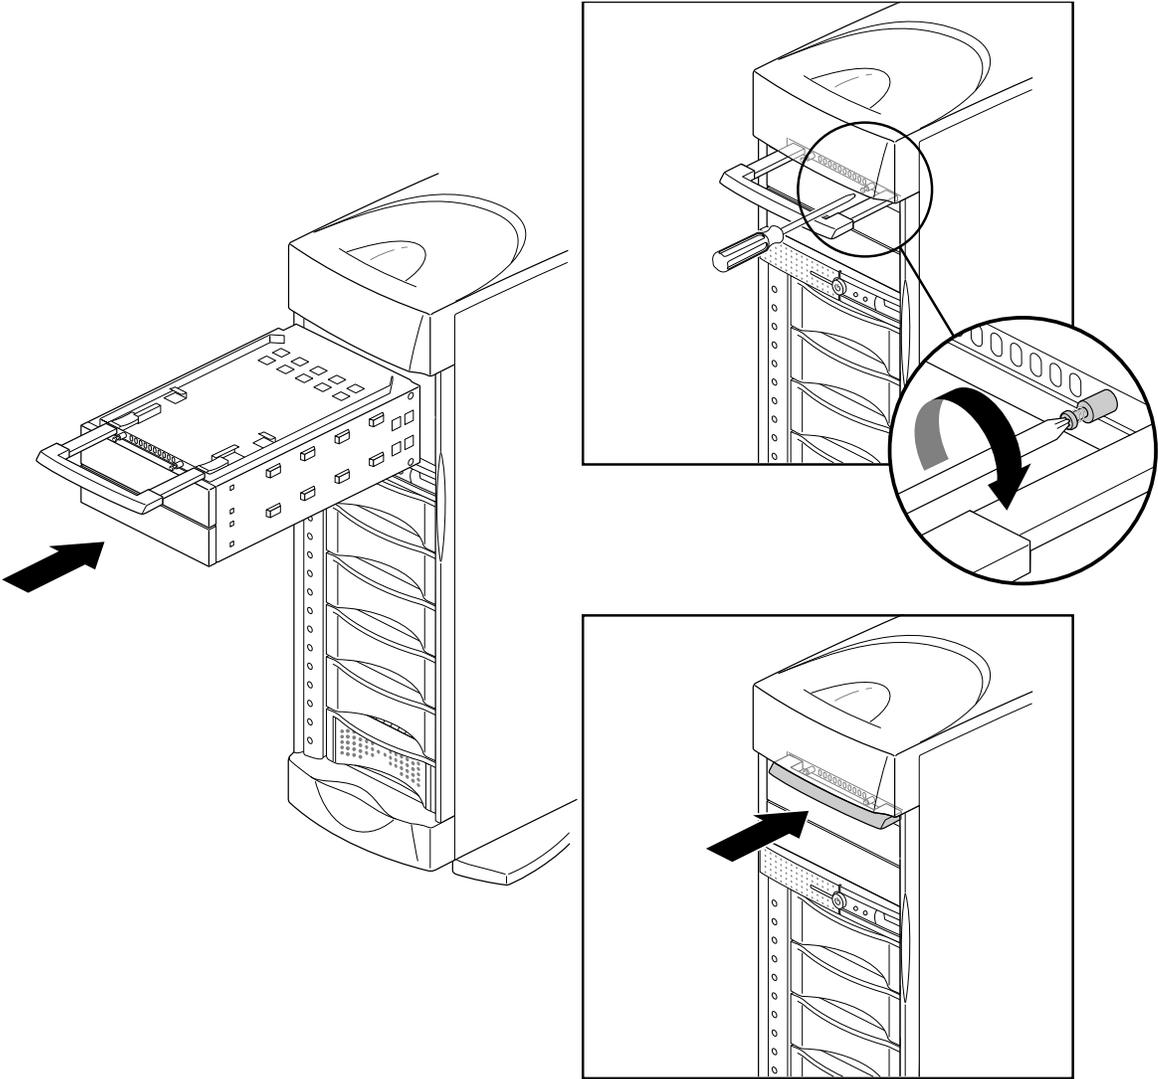

Figure 6-5 Replacing the 5.25-Inch Peripheral Carrier
7. Slide the carrier into the system and secure it with the two captive screws. See Figure 6-5.